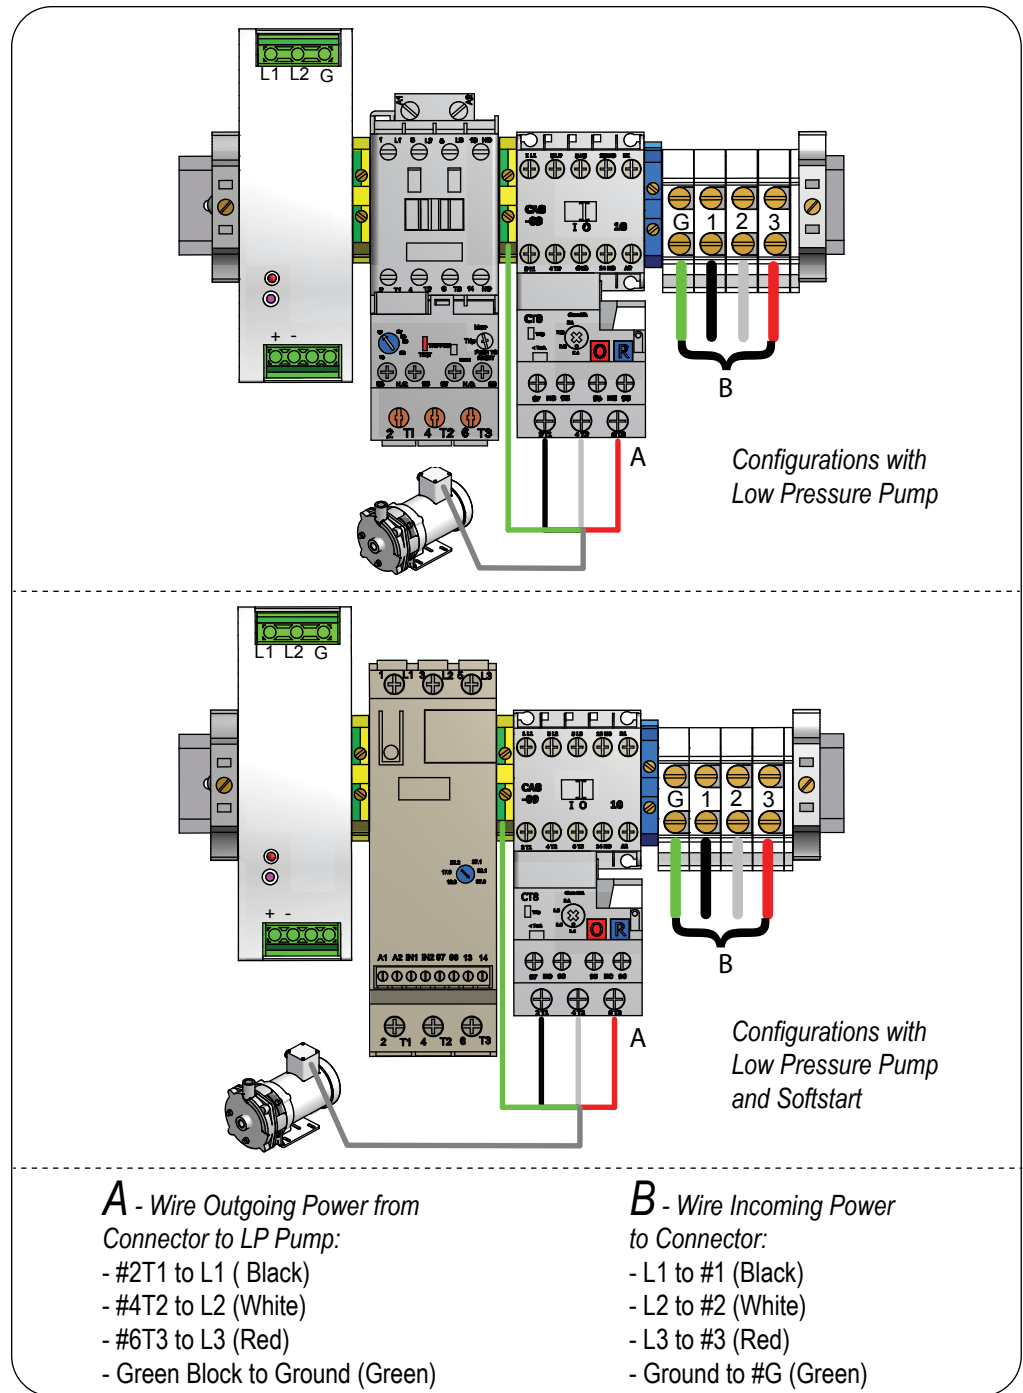

Figure 18: Wiring at the Contactor Block
For three phase power, (50 or 60 Hz), attach the wires to terminals #2T1, #4T2, and #6T3 of the LPP contactor, and #G to the green isolated ground block. See *Figure 18* on page 47.
- #1, #2, #3, and #G for three phase power (Figure 18 shown above)